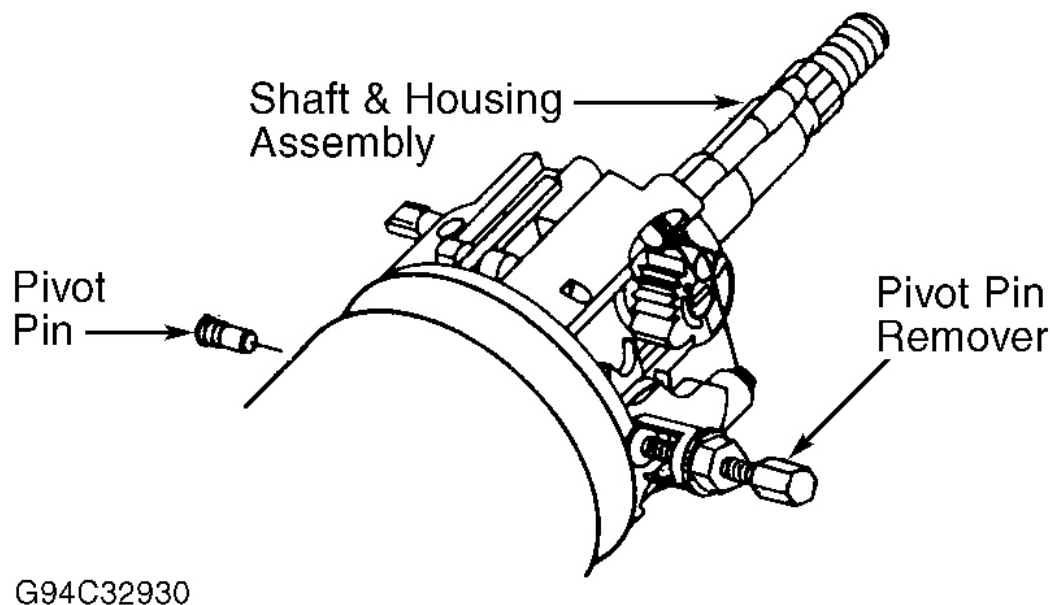

Fig. 10: Removing Pivot Pin
2. Using Pivot Pin Remover (J-21854-01), remove pivot pins from column housing. See **Fig. 10** . Install tilt lever. Pull back tilt lever, and then pull column housing down and away from column. Components can now be removed from column housing. Remove lower bearing and related components. Remove steering column shaft.